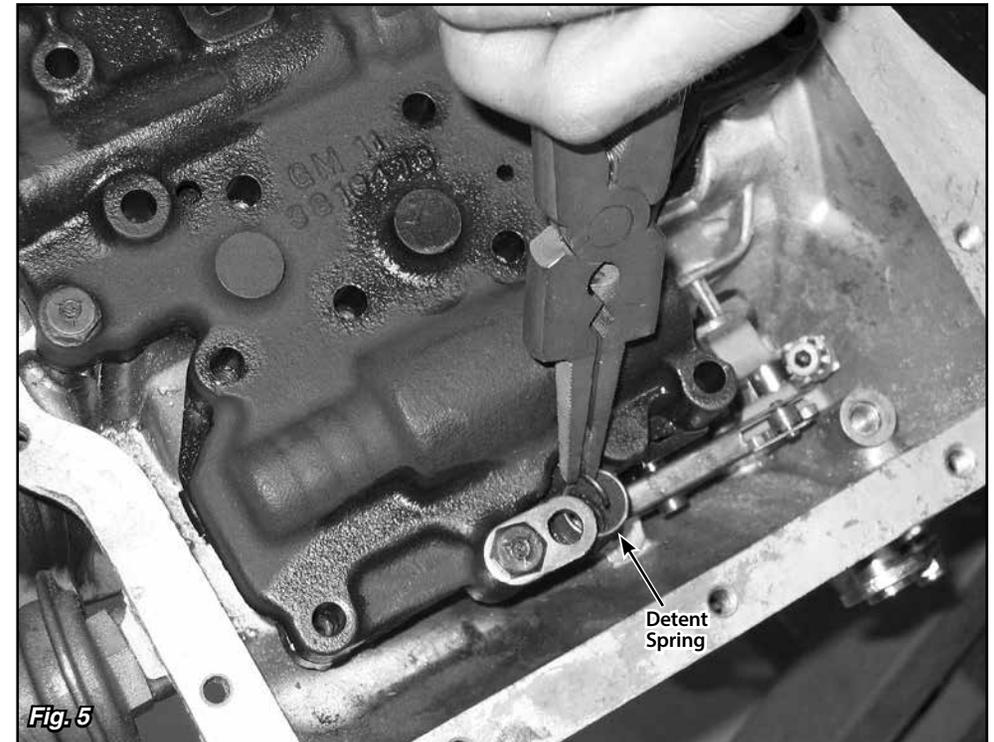

Fig. 5
**Step 5:** Remove the detent spring. Fig. 5 Loosen the bolt on the selector shaft clamp, but do not remove the bolt. Slide the selector shaft out of the transmission and remove the selector shaft clamp. Fig. 6 and Fig. 7